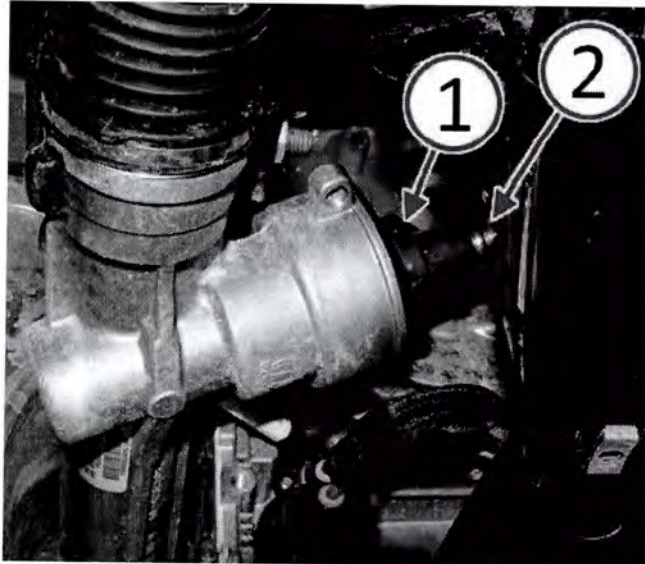

Fig. 1 Locate Dust Cover
3. Locate the rubber dust cover (1) on the EPS gear pinion shaft near the connection to the intermediate shaft (2) (Fig. 1).